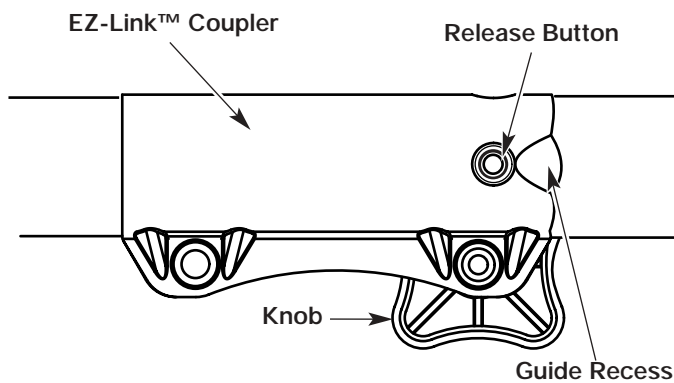

Fig. 19
1. Turn the knob counterclockwise to loosen (Fig. 19).
2. Press and hold the release button (Fig. 19).
3. While firmly holding the upper shaft housing, pull the cutting attachment or add-on straight out of the EZ-Link™ coupler (Fig. 19).
NOTE: Aligning the release button with the guide recess will help installation (Fig. 19).